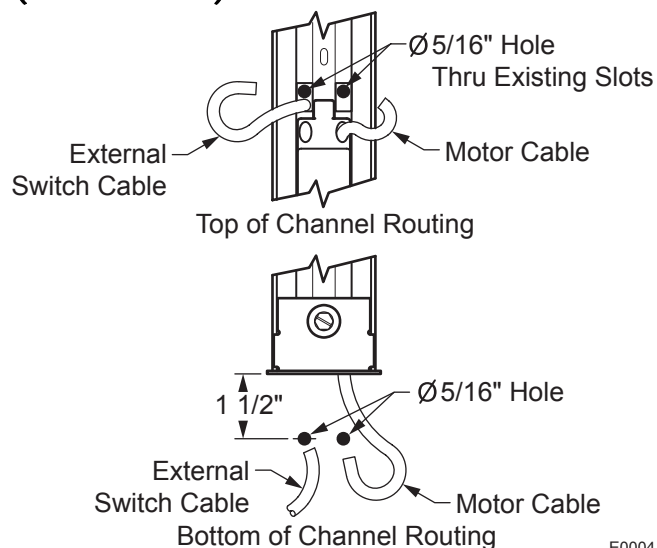

Figure 6. Wall Pass-Through Drill Patterns.
- 3.3 (Refer to Figure 6 pg. 7) Pull the motor cable out of the hole in the top of the channel.